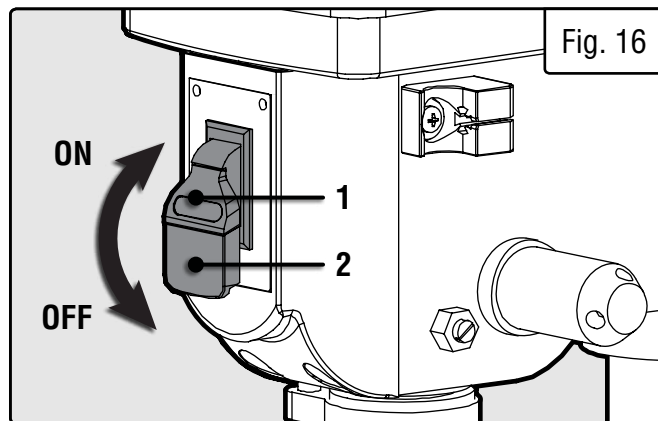

Fig. 16
1. To turn drill press ON, insert the yellow safety key (Fig. 16 - 1) into the switch housing (Fig. 16 - 2). As a safety feature, the switch cannot be turned ON without the safety key.